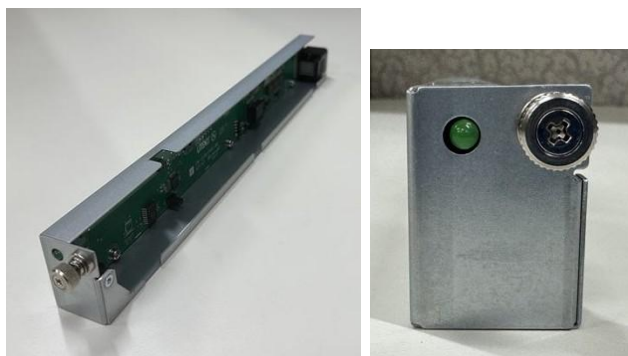
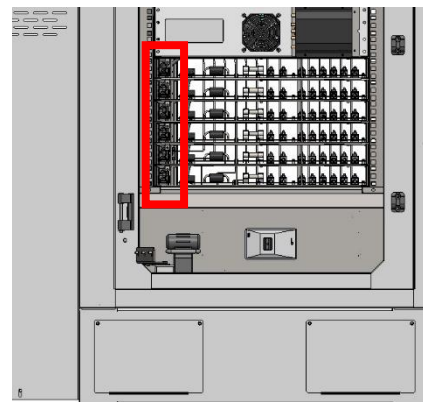
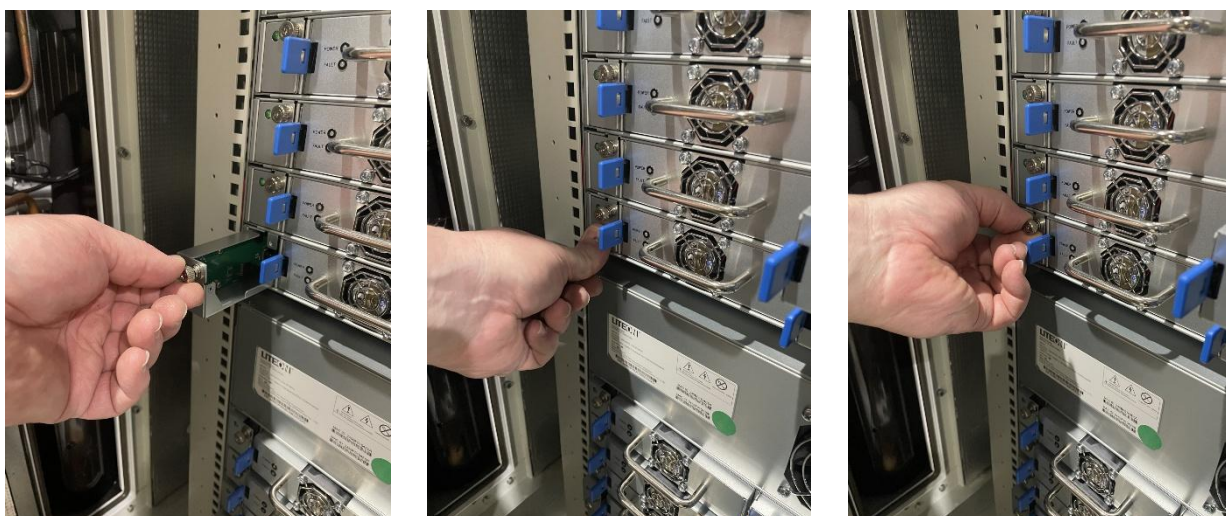

Figure 27 - Shelf Controller
Figure 26 – Empty shelves in charger's bottom power stack with six empty shelf controller slots highlighted
Figure 28 – Install and Secure Shelf Controllers
5. Also inside the left-side door and starting at the first open slot at the bottom-left of each of the charger's power stacks (Figure 26), insert 1 Shelf Controller (SC) (Figure 27) per shelf and secure it with built-in screw (Figure 28).